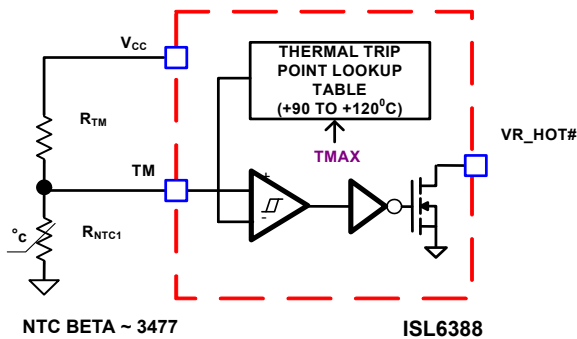
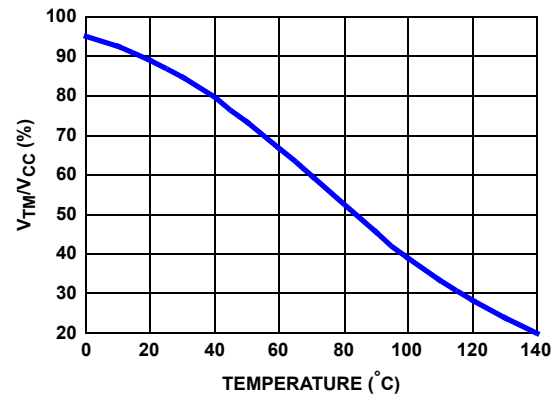

FIGURE 20. BLOCK DIAGRAM OF THERMAL MONITORING FUNCTION
FIGURE 21. THE RATIO OF TM VOLTAGE TO NTC TEMPERATURE WITH RECOMMENDED PARTS
The block diagram of thermal monitoring function is shown in Figure 20. One NTC resistor should be placed close to the respective power stage of the voltage regulator VR to sense the operational temperature, and pull-up resistors are needed to form the voltage dividers for the TM pins. As the temperature of the power stage increases, the resistance of the NTC will reduce, resulting in the reduced voltage at the TM pin. Figure 21 shows the TM voltage over the temperature for a typical design with a recommended 6.8k $\Omega$  NTC (P/N: NTHS0805N02N6801 from Vishay,  $b = 3477$ ) and 1k $\Omega$  resistor  $R_{TM}$ . It is recommended to use those resistors for the accurate temperature compensation since the internal thermal digital code is developed based upon these two components. If a different value is used, the temperature coefficient must be close to 3477 and  $R_{TM}$  must be scaled accordingly. For instance, say NTC = 10k $\Omega$  ( $b = 3477$ ), then  $R_{TM}$  should be  $10k\Omega / 6.8k\Omega * 1k\Omega = 1.47k\Omega$ .
There is a comparator with hysteresis to compare the TM pin voltage to the threshold set by the TMAX register (programmable via PMBus E8[2:0]) for VR\_HOT# signal. With TMAX set at +100 $^{\circ}\text{C}$ , the VR\_HOT# signal is pulled to GND when TM voltage is lower than 39.12% of  $V_{CC}$  voltage, and is open (pulled high through TM) when TM voltage increases to above 40.98% of  $V_{CC}$  voltage. The comparator trip point will be programmable by TMAX register. Figure 21 shows the operation of those signals.
Based on the VCC voltage, the ISL6388 converts the TM pin voltage to a 6-bit TM digital signal for temperature compensation. With the non-linear A/D converter of ISL6388, the TM digital signal is proportional to the NTC temperature. For accurate temperature compensation, the ratio of the TM voltage to the NTC temperature of the practical design should be similar to that in Figure 21.
When a different NTC type or different voltage divider is used for the TM function, the TCOMP voltage can also be used to compensate for the difference between the recommended TM voltage curve in Figure 21 and that of the actual design. If the same type NTC (β = 3477) but different value is used, the pull-up resistor needs to be scaled, as shown in Equation 20:
- 1. Properly choose the voltage divider for the TM pin to match the recommended curve in Figure 21.